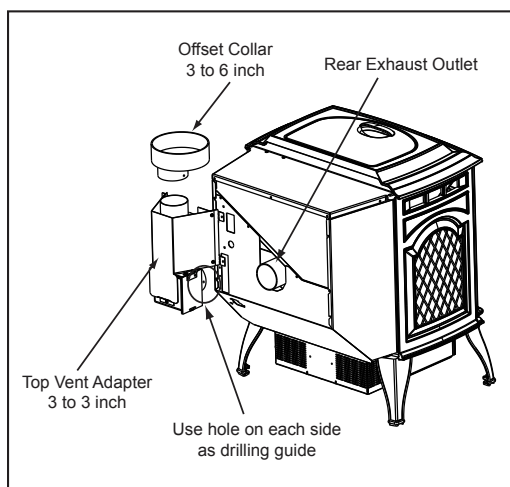

Figure 20.1
1. Put a layer of high temperature silicone on the 3 inch (76mm) rear exhaust outlet. **Do not put silicone inside of pipe. Figure 20.1**
2. Slide the top vent adapter onto the rear exhaust outlet and adjust the assembly to a vertical position. **Figure 20.1.**
3. Drill 4 holes with #26 drill bit (provided) into the back of the appliance using the outer shield as a pattern (make sure the assembly is vertical). **Figure 20.1.**
1. Put a layer of high temperature silicone on the 3 inch (76mm) exhaust outlet. **Do not put silicone inside of pipe. Figure 20.1**